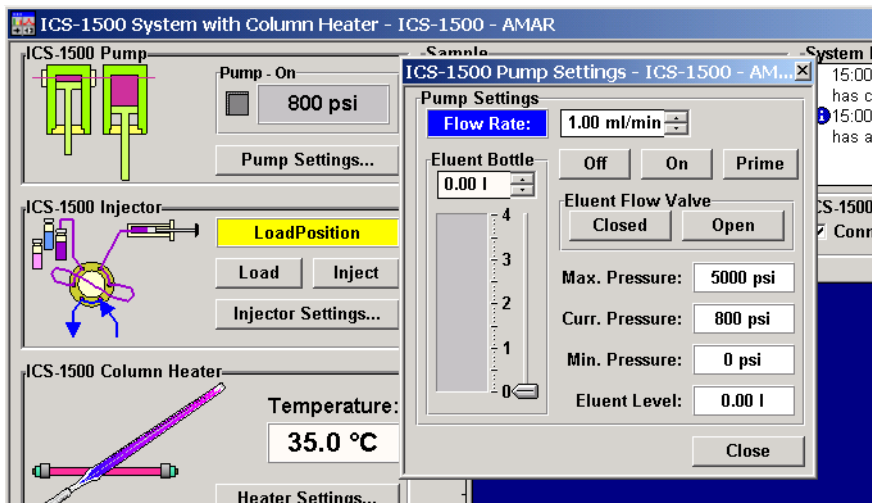

Figure B-37. Chromeleon Control Panel: Pump Settings
4. On the Chromeleon Control Panel, click **Pump Settings** and then click **Eluent Flow Valve Open** (see Figure B-37).
3. Click **Prime** on the Chromeleon Control Panel (see Figure B-37). The pump will begin pumping at approximately 3 mL/min.